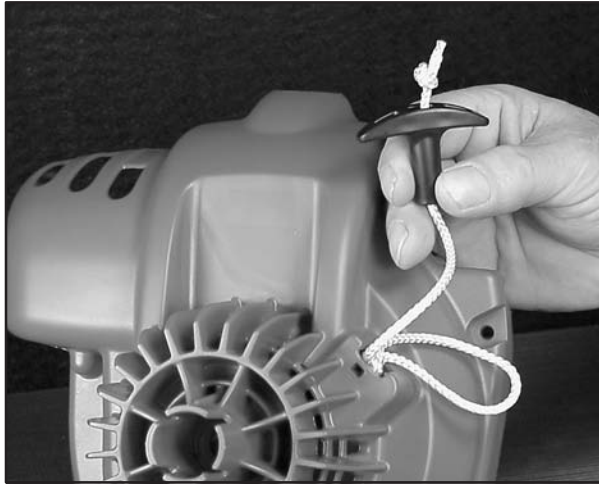

Fig. 3
2. Remove rope from rope handle and untie knot, Fig. 3.